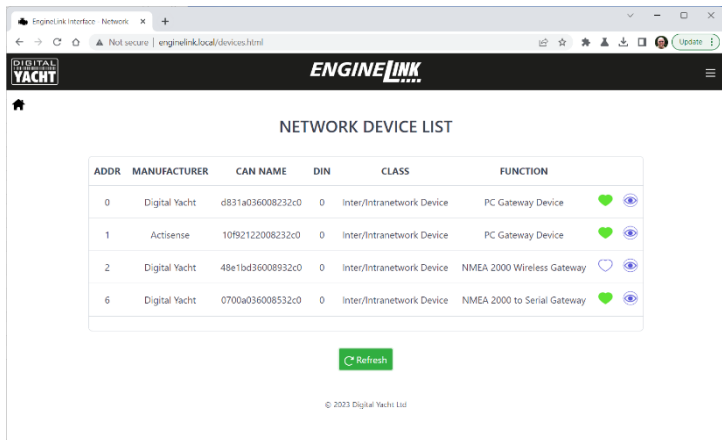

Figure 15
- NMEA 2000 Device List (Fig 15)
Also included on the Settings page, is a “Device List” button that is useful for seeing what other devices are on the NMEA 2000, what CAN Address they have, etc. Clicking this button takes you to the page shown in Fig 15.